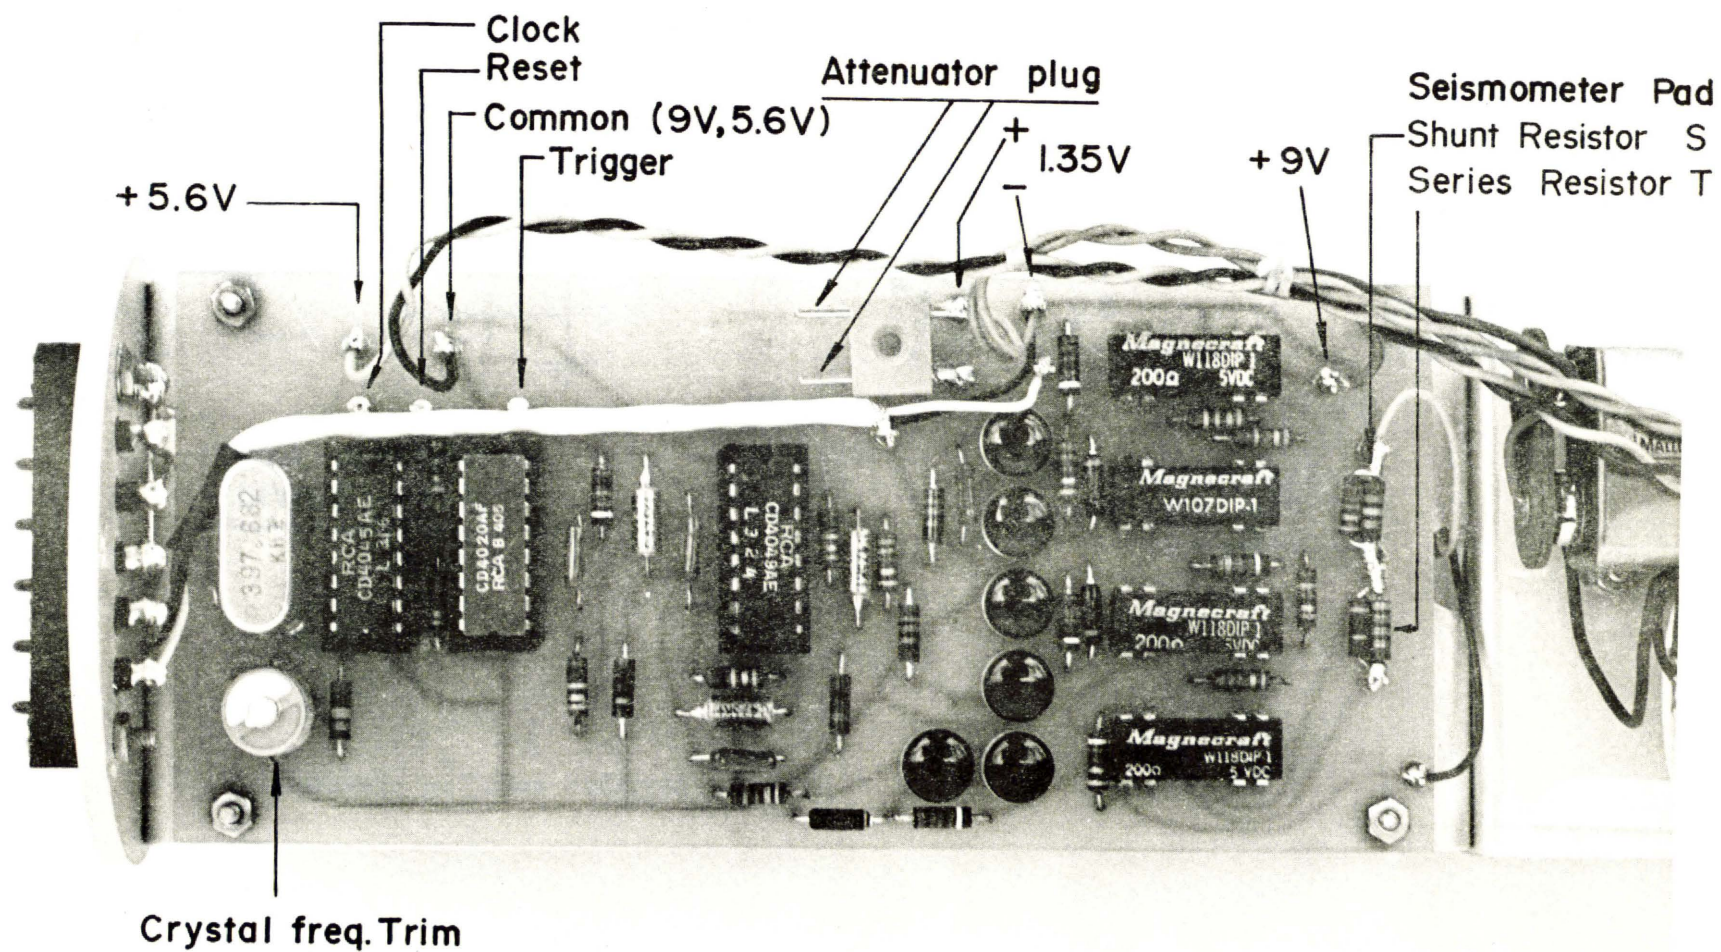

FIGURE 1
The J101 Discriminator (Figures 1, 2, and 3) accepts a frequency modulated signal with center frequency in the range of 680 to 3060 hertz and discriminates it to produce an amplitude modulated signal in the frequency range of 0.1 to 30 hertz (Figure 4). The appropriate carrier frequency is selected by means of bandpass filters from the multiplexed signal appearing at the input of the discriminator.
2. Connect a signal generator to the discriminator input (Pins A and B, Figure 1) and a db meter between the "F" pin on the front panel and ground.